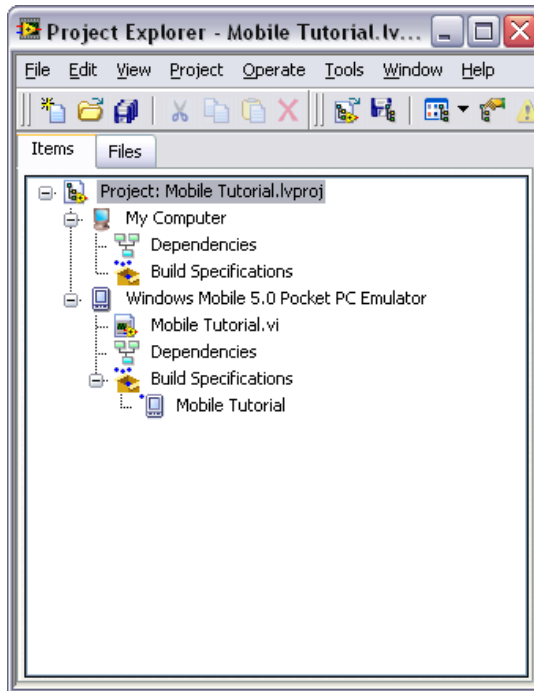

Figure 6. Project Explorer Window
6. Click the **OK** button. The build specification you just created appears in the **Project Explorer** window under the target as shown in Figure 6.